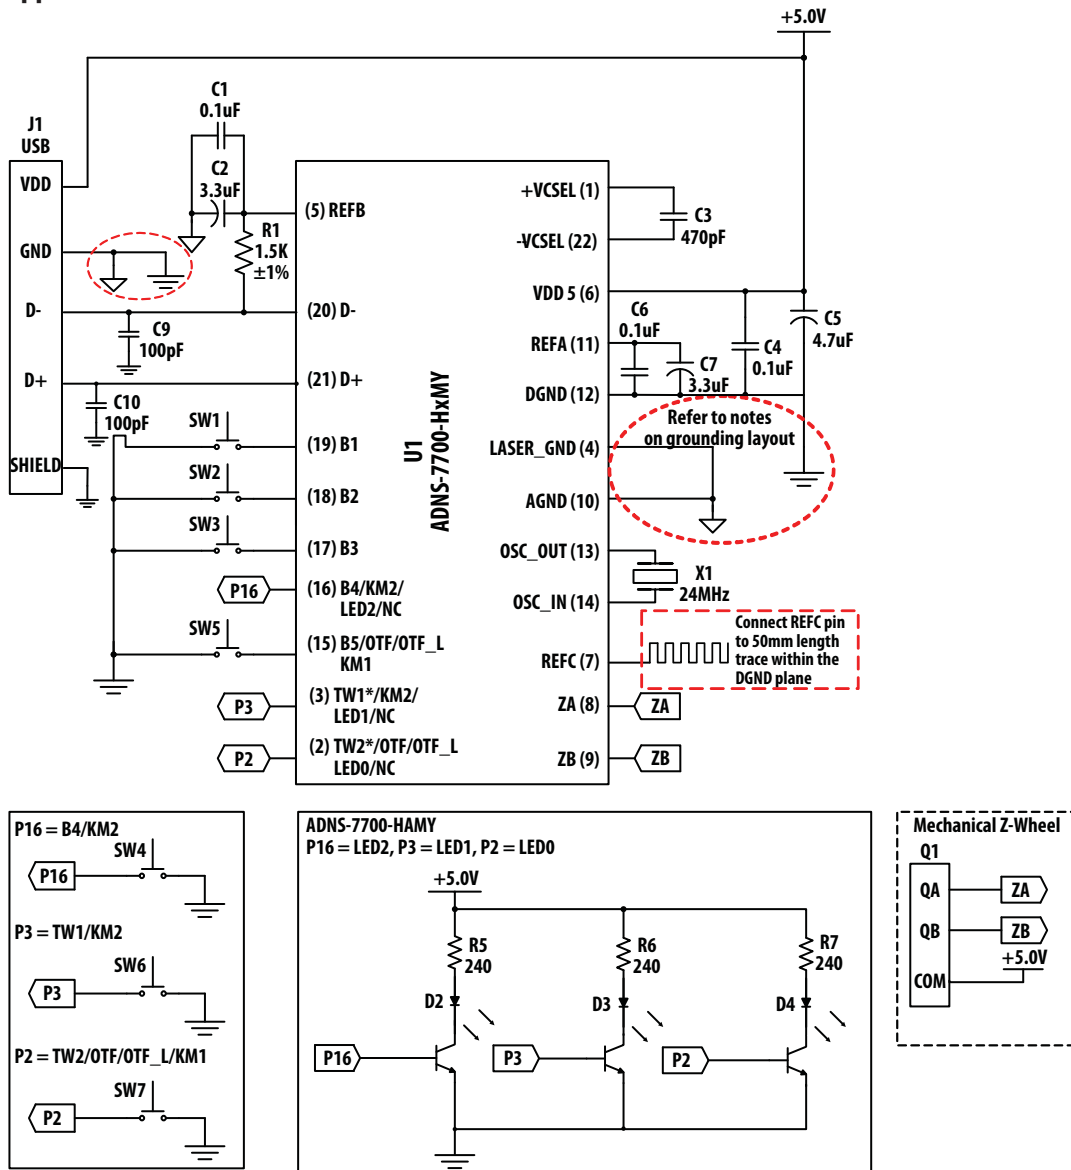

Figure 6. ADNS-7700 Sensor's Application Schematics
ADNS-7700 sensor and the associated components in the schematic of Figure 6 are intended to comply with Class 1 Eye Safety requirements of IEC/EN 60825-1. Avago Technologies calibrate sensor laser output power (LOP) to Class 1 eye safety level prior shipping out, thus no laser output power calibration is required at mouse manufacturer site.
ADNS-7700 sensor is designed to maintain the laser output power using ADNS-6180-002 lens within Class 1 requirements over components manufacturing tolerances under the recommended operating conditions and application circuit of Figure 6 as specified in this document. Under normal operating conditions, the sensor generates the drive current for the VCSEL. Increasing the LOP by other means on hardware and software can result in a violation of the Class 1 eye safety limit of $716 \mu\text{W}$. For more information, please refer to Eye Safety Application Note.
1. The system is operated based on the recommended application circuit in Figure 6 and within the recommended operating conditions.